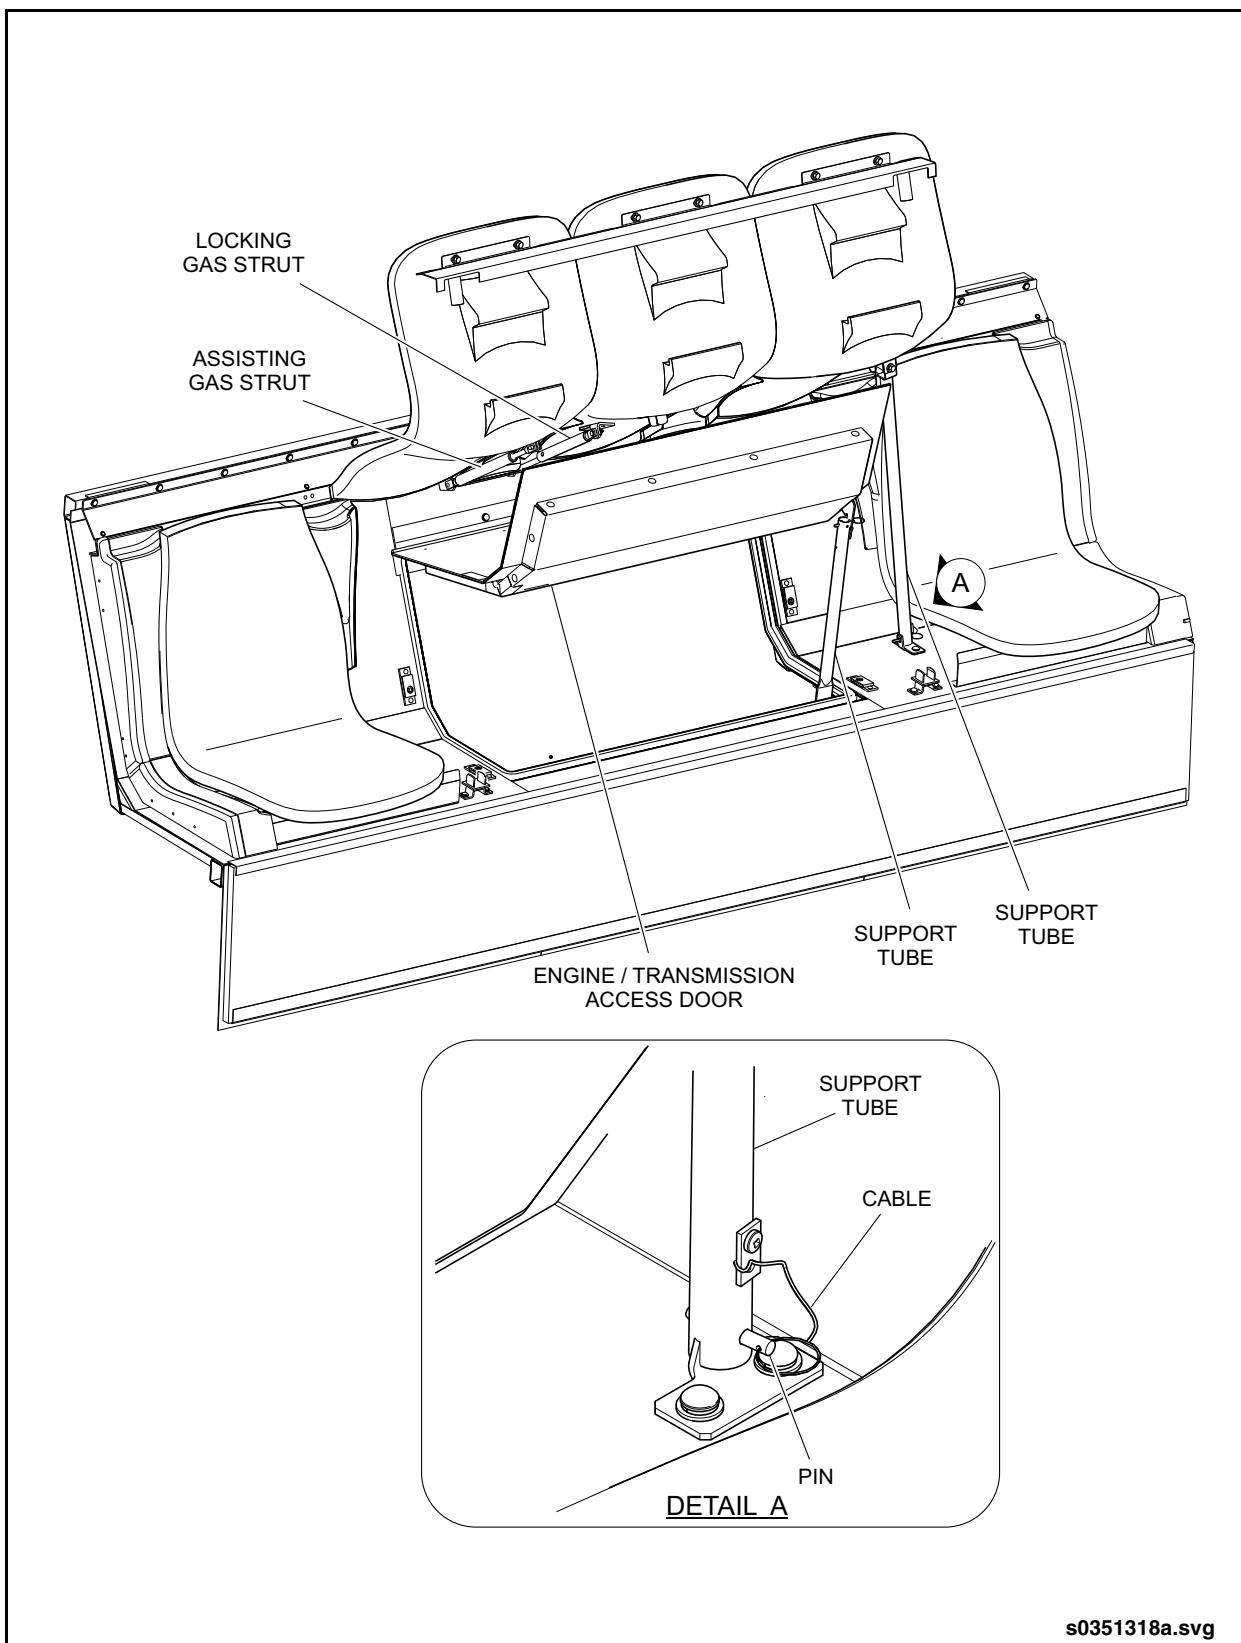

Fig. 15-2: Engine &amp; Drive Unit Access Doors
3. Locate the support tube and unlatch it from its storage clip. See "Fig. 15-2: Engine & Drive Unit Access Doors" on page 5.